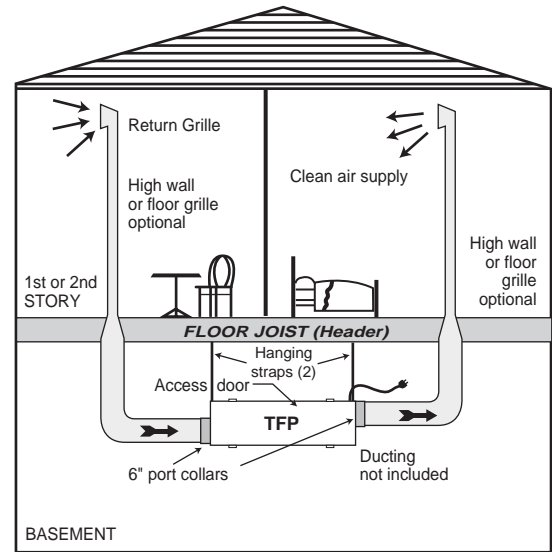

Figure 4
1. Install (2) 6" oval port collars (provided) on TFP cabinet with (8) 8/32" X 3/8" sheet metal screws provided (Fig.4).
2. Ducting will usually consist of one return with grille from one side of the home, and one supply with grille at the opposite end of the home (Fig. 4).